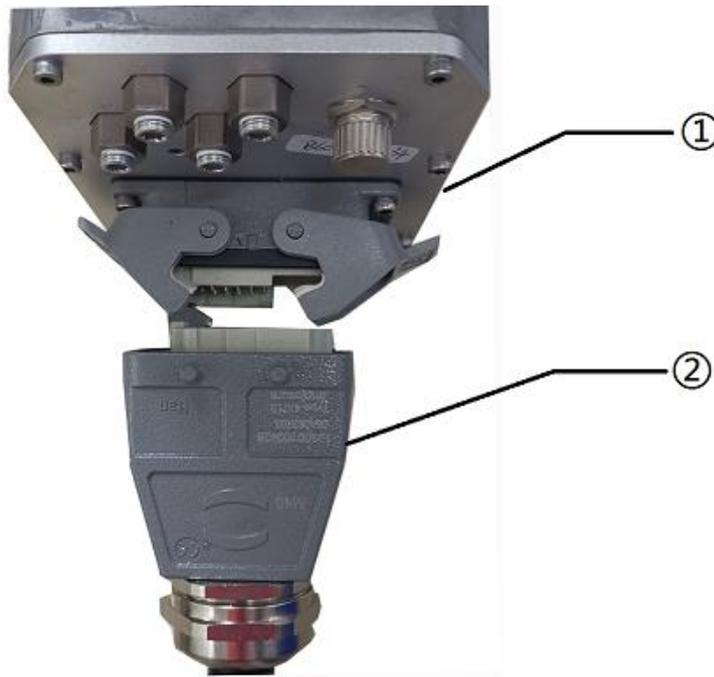

Fig. 24 Connecting to the robot
Please connect the Teach Pendant cable as shown in Fig. 24:
The XBC5 series of control cabinet comes standard with a next-generation heavy-duty connector. Please connect the robot relay cable as shows in Fig. 24. The item 1 in Fig. 24 is the wiring panel on the rear side of the robot base, and the item 2 is the heavy-duty connector of the relay cable on the control cabinet.